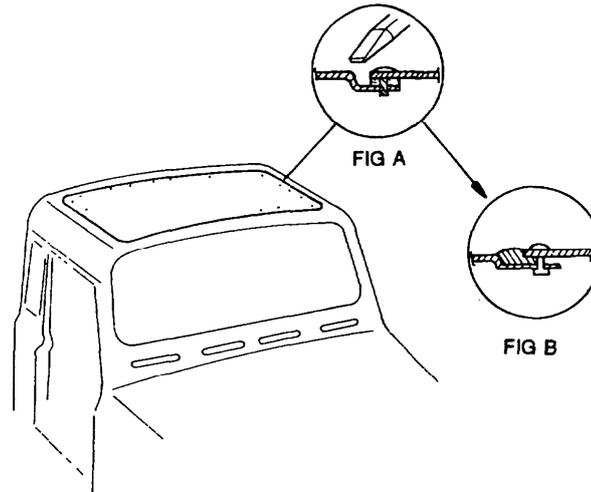

Figure 234 Roof Panel – Applying Sealant
- a. Using a suitable tool remove the sealant from the exposed area of the joint between the cab frame and the roof panel (Figure 234, Inset A).
- b. Using Bostick 2638 fill the joint between the cab frame and the roof panel (Figure 234, Inset B).